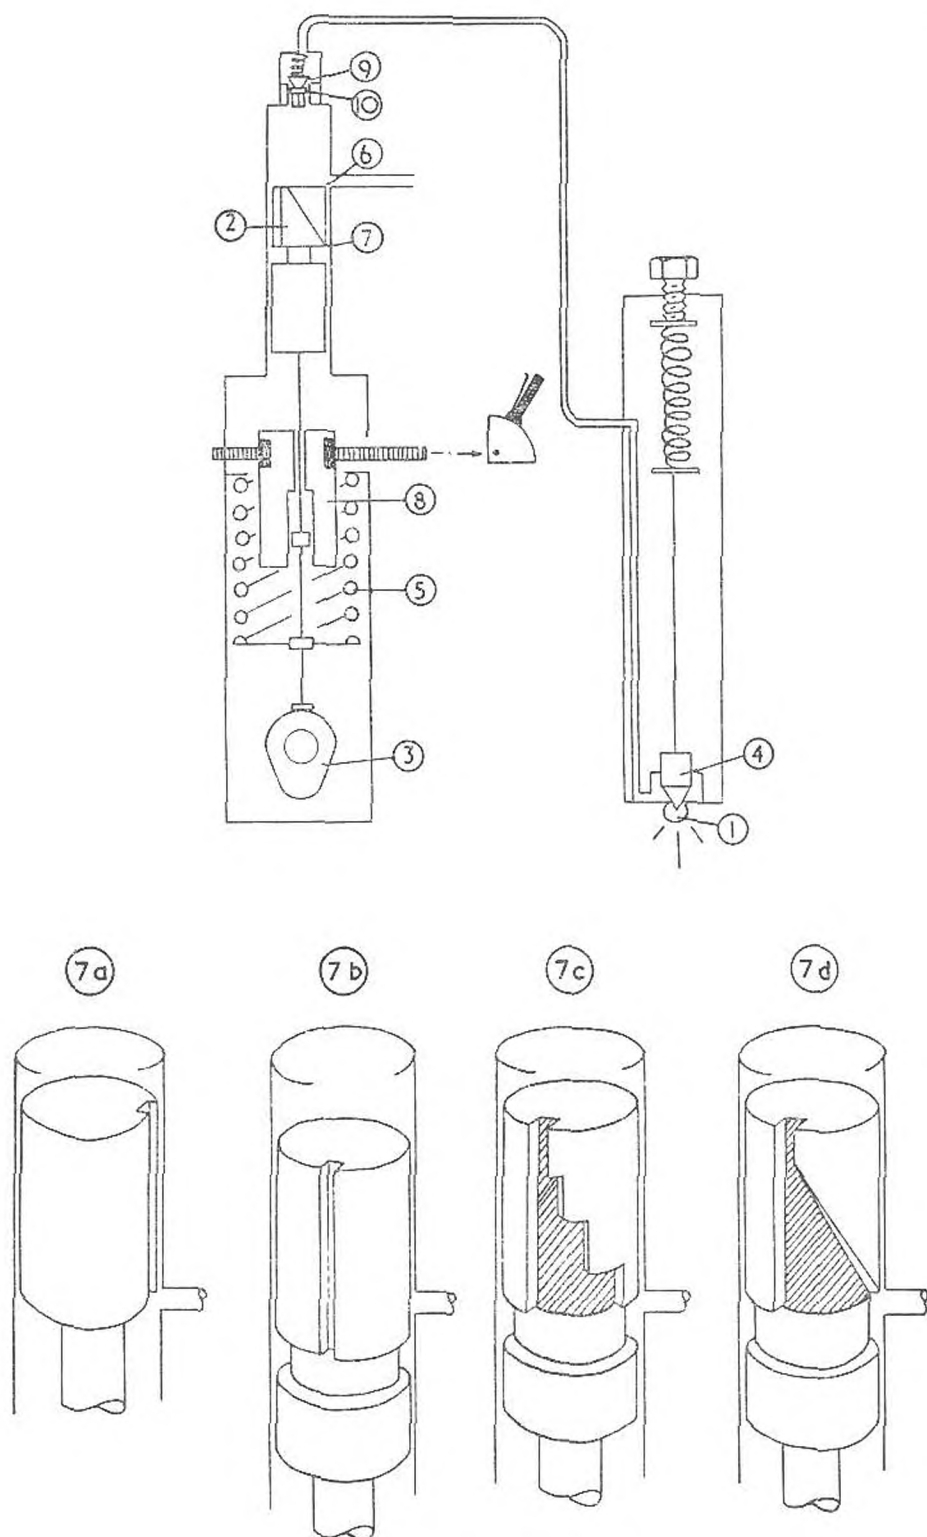

Fig. 36. Fuel injection—Jerk type
FUEL INJECTION—JERK AND COMMON RAIL (Refer to Fig. 36)
- (1) NOZZLE. To break up the fuel into fine particles to spread it evenly throughout the space above the piston, and mix it with the air.
- (2) PLUNGER. To force fuel through small holes in the nozzle.
- (3) CAM. To operate plunger in step with the piston on every other top dead centre (four-stroke cycle). Cam rotates at half crankshaft speed.
- (4) SPRING LOADED VALVE (needle valve). To ensure that fuel arrives at the nozzle holes at high pressure.
- (5) SPRING. To keep the plunger following the cam when on the suction stroke.
- (6) START OF INJECTION. When plunger covers the suction port. Injection is designed to start when the piston is at or near the top of the compression stroke.
- (7) END OF INJECTION (Refer to Fig 36)
- (8) ROTATING SLEEVE. To rotate the plunger for varying engine powers. An arm fixed to the plunger engages with a slot in the sleeve to allow for the up and down movement. The sleeve is turned by the control lever at the forward end of the engine.
- (9) NON-RETURN VALVE. To keep a pressure in the supply pipe when plunger is on the suction stroke. This pressure tends to balance the pressure of the spring in the injector which tends to cause dribbling at the nozzle.
- (10) ANTI-DRIBBLE DEVICE. To allow the spring loaded valve (Injector) to shut tight. A plunger on the non-return valve takes up space in the supply pipe when valve is open, but, when the valve shuts, this space will be taken up by the fuel in the pipe thus causing a drop in pressure.